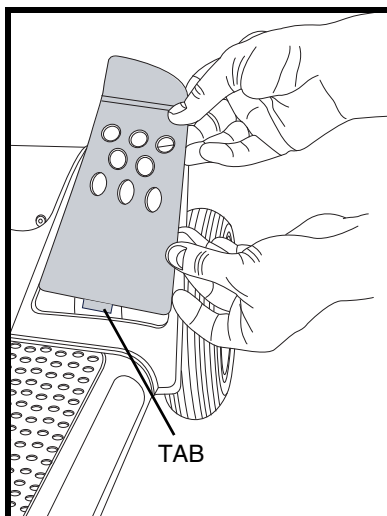

Figure 10. Front Fender Panel
See **figures 10, 11 and 12**.
**NOTE:** When installing the front fender panel, make sure the tab at the bottom of the panel is inserted into the tab opening before securing the panel. See **figure 10**.